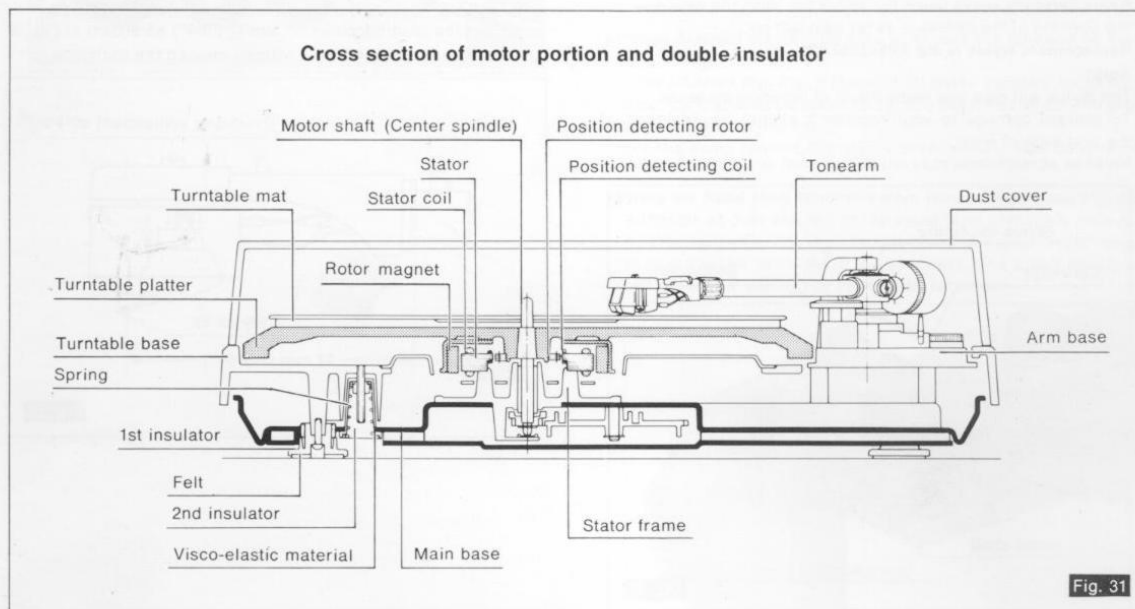

Fig. 31
- The newly developed double-insulate vibration-damping unit, unique in Technics, was developed through high mass design placing particular emphasis on acoustic quality. (See Fig. 31.) The turntable platter and the tonearm are installed on the base and solidly girded through the integral construction of the main base and the bottom of the case, while the entire base is floating in stable equilibrium with respect to the main turntable base through insulators, composed of metallic springs and a viscoelastic material. The main turntable base is also provided with an insulator superior in vibration damping characteristics for protection from undesirable external vibrations. As a result, a combined effect is obtained through the use of two insulators to maintain excellent absorption and cut-off of external vibrations and local resonance from speaker output thus effecting remarkably improved feedback prevention.
- Motor construction peculiar to Technics in which the rotor of the motor is integrally connected to the turntable platter (See Fig. 31.) In Technics turntable systems we took the lead in the world by putting the Direct Drive system on the market with a marked improvement in the performance of turntables. Since then, we have developed numerous turntables of high performance, furnishing new topics of conversation each time. One of these achievements is the motor construction of this unit, unique and singular in the world, in which the rotor of the motor is directly connected to the turntable platter. Moreover, the motor base has been integrally connected to the turntable base of diecast aluminum for presenting turntable systems of higher accuracy and rational construction.